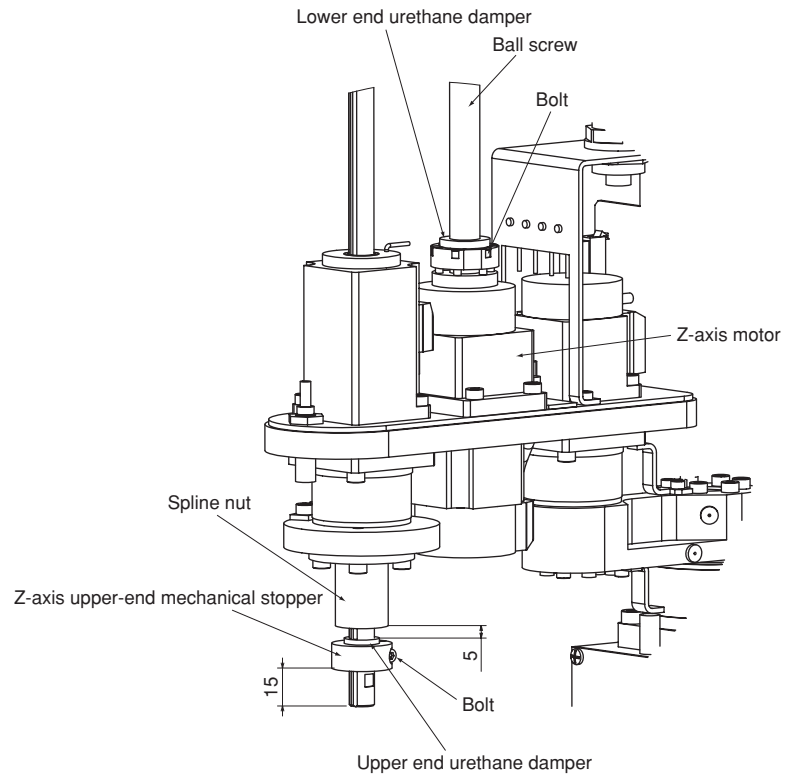

Fig. 4-15
- 1) Check that the Z-axis upper-end mechanical stopper is at the position shown in Fig. 4-15.
- 10) Lift up the lower end urethane damper and loosen the bolts (6 pieces) securing the ball screw shown in Fig. 4-15. Then rotate the ball screw with respect to the Z-axis motor so that the distance between the upper end urethane damper and the lower end of the spline is 5mm. When the lower end position of the ball screw is determined, push the ball screw in so that it makes contact with the bottom of the Z-axis motor installation hole.